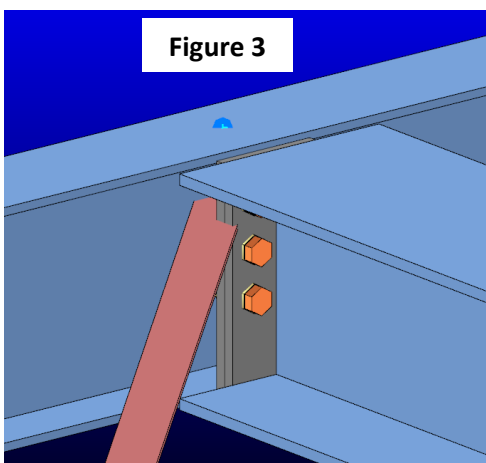

Figure 3
- ❖ A typical example (see Figure 3) would be the need to shift the horizontal bracing in flooring systems away from the beam-beam intersection points to avoid clashes with connection plate.